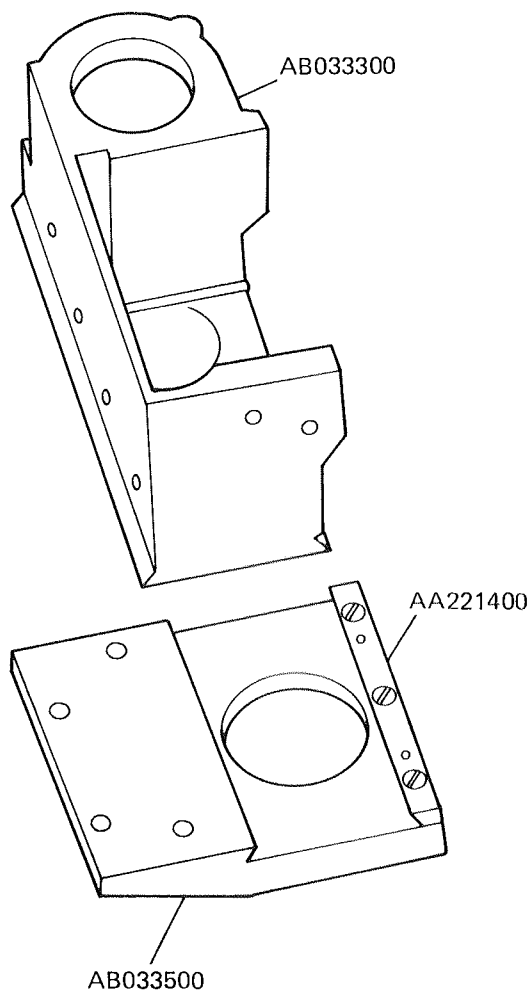

Fig. 13-2
- b) Assemble Prism Mount AB033300 with Dovetail AB033500 (apply Grease OT-2008). (See Fig. 13-2)